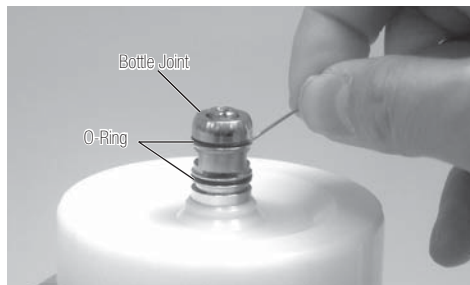

Fig. 24
Remove the two O-rings at the Bottle Joint with a pointed tool and insert new O-rings into the grooves. (Fig. 24).
1) Turn off the water supply to which PRESTO AQUA LUX is connected. Use two (5x8) spanners as shown in Fig.24 and turn in the direction as shown. Should the water tube becomes twisted as a result of this, relieve the twisting by releasing the spanners and make sure the tube between the water filter and the unit is straight.